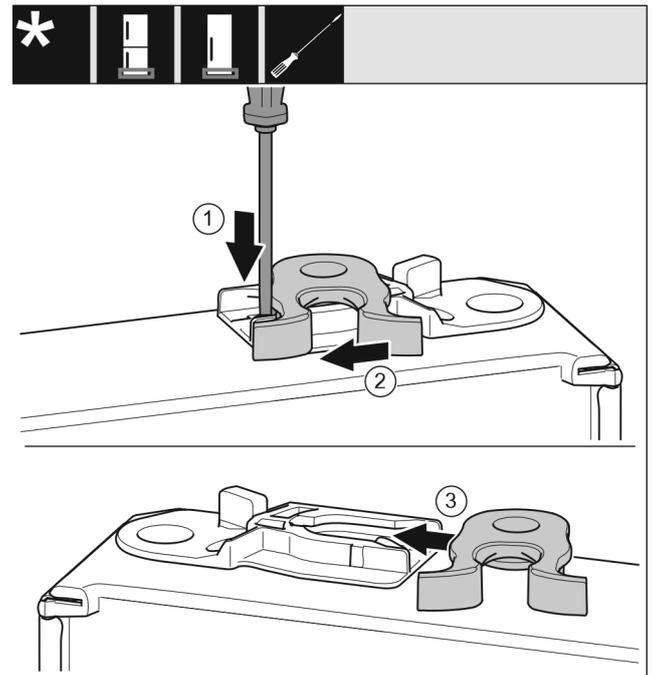

Fig. 18
- ▶ Push the lug downwards with a slotted screwdriver. Fig. 18 (1)
- ▶ Pull the door latch out of the guide. Fig. 18 (2)
- ▶ Push the door latch into the guide on the other side. Fig. 18 (3)